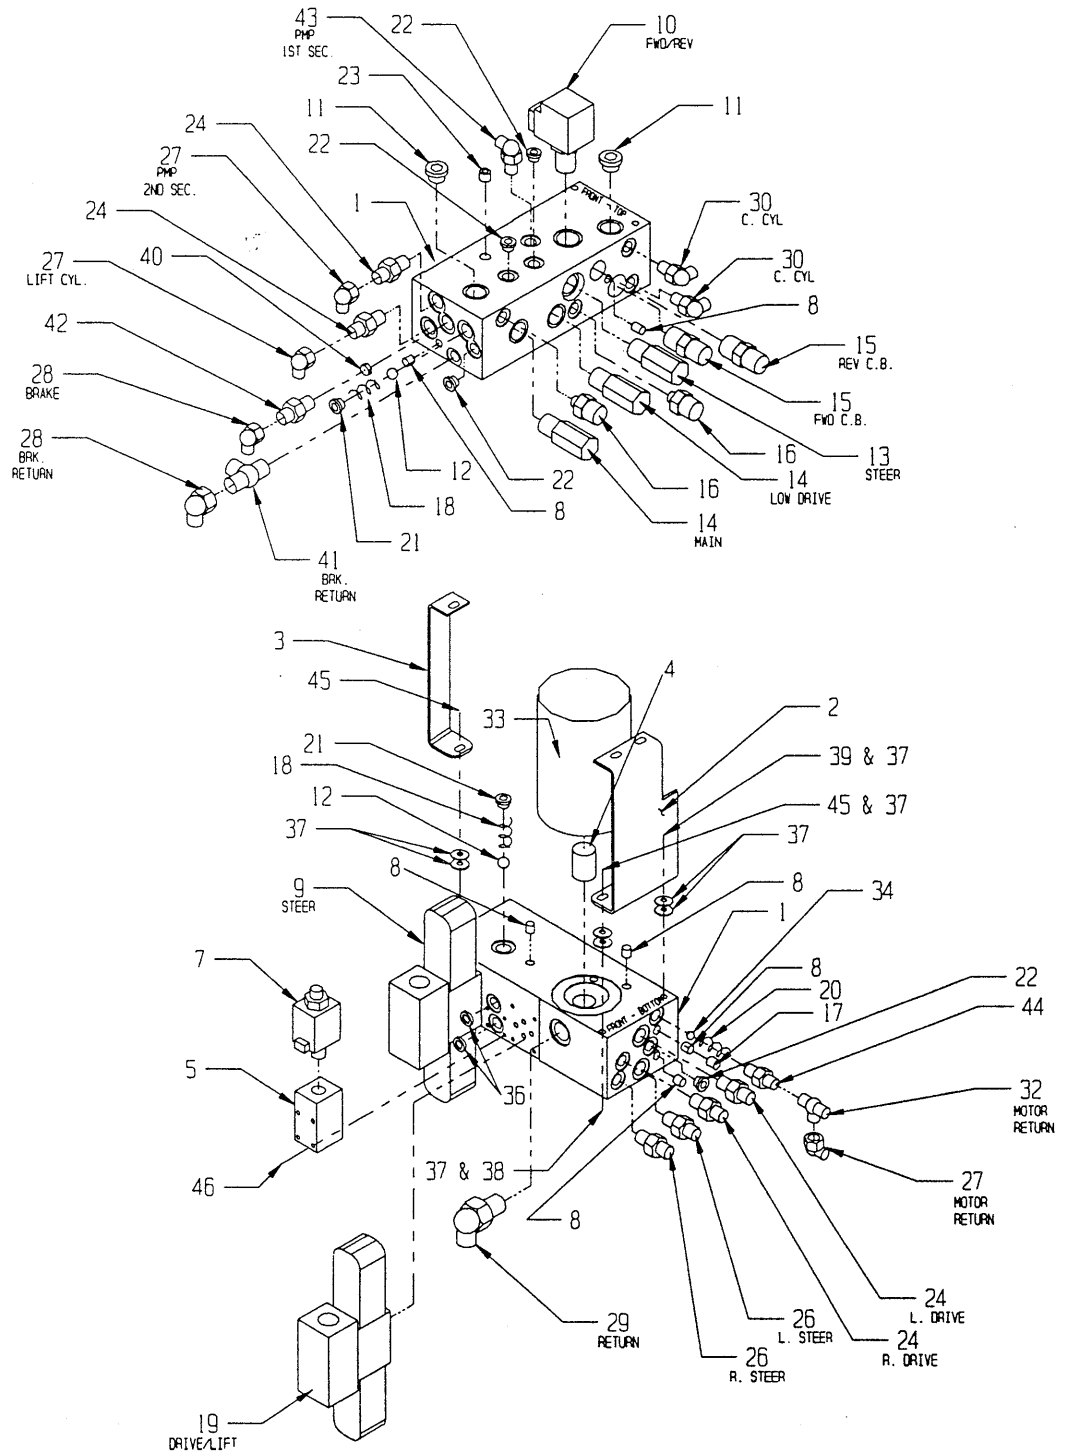

Figure 4-7: Hydraulic Manifold, Exploded View
4.7 Hydraulic Manifold (Figure 4-7)
NOTE: Mark all components as they are removed so as not to confuse their location during assembly. Refer to Figure 4-7 often to aid in disassembly and assembly.